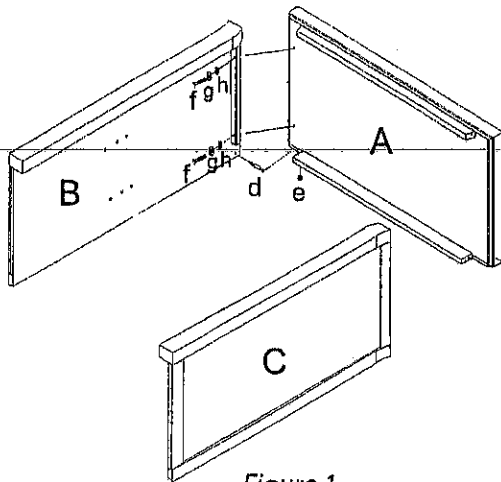

Figure 1.
Attach left side panel(B) and right side panel(C) to Top panel(A) by using Four (4) Allen head Bolt(f) & Four (4) Washer (g) & Four(4) Spring Washer (h) and two (2) Connecting rod Bolt(d) and two (2) Right- handed Nut. See Figure 1 below.